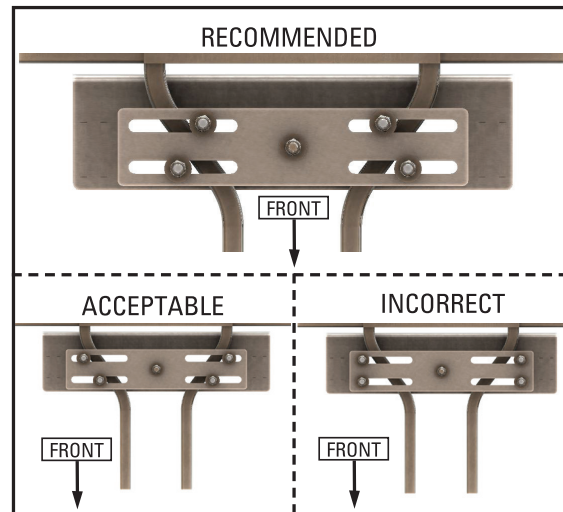

Figure 11: Fastener Placement
- 3) Place the Upper Mount Plate (2) over the frame. It should be located behind the tires where the frame widens. Refer to Figure 11 for fastener placement.